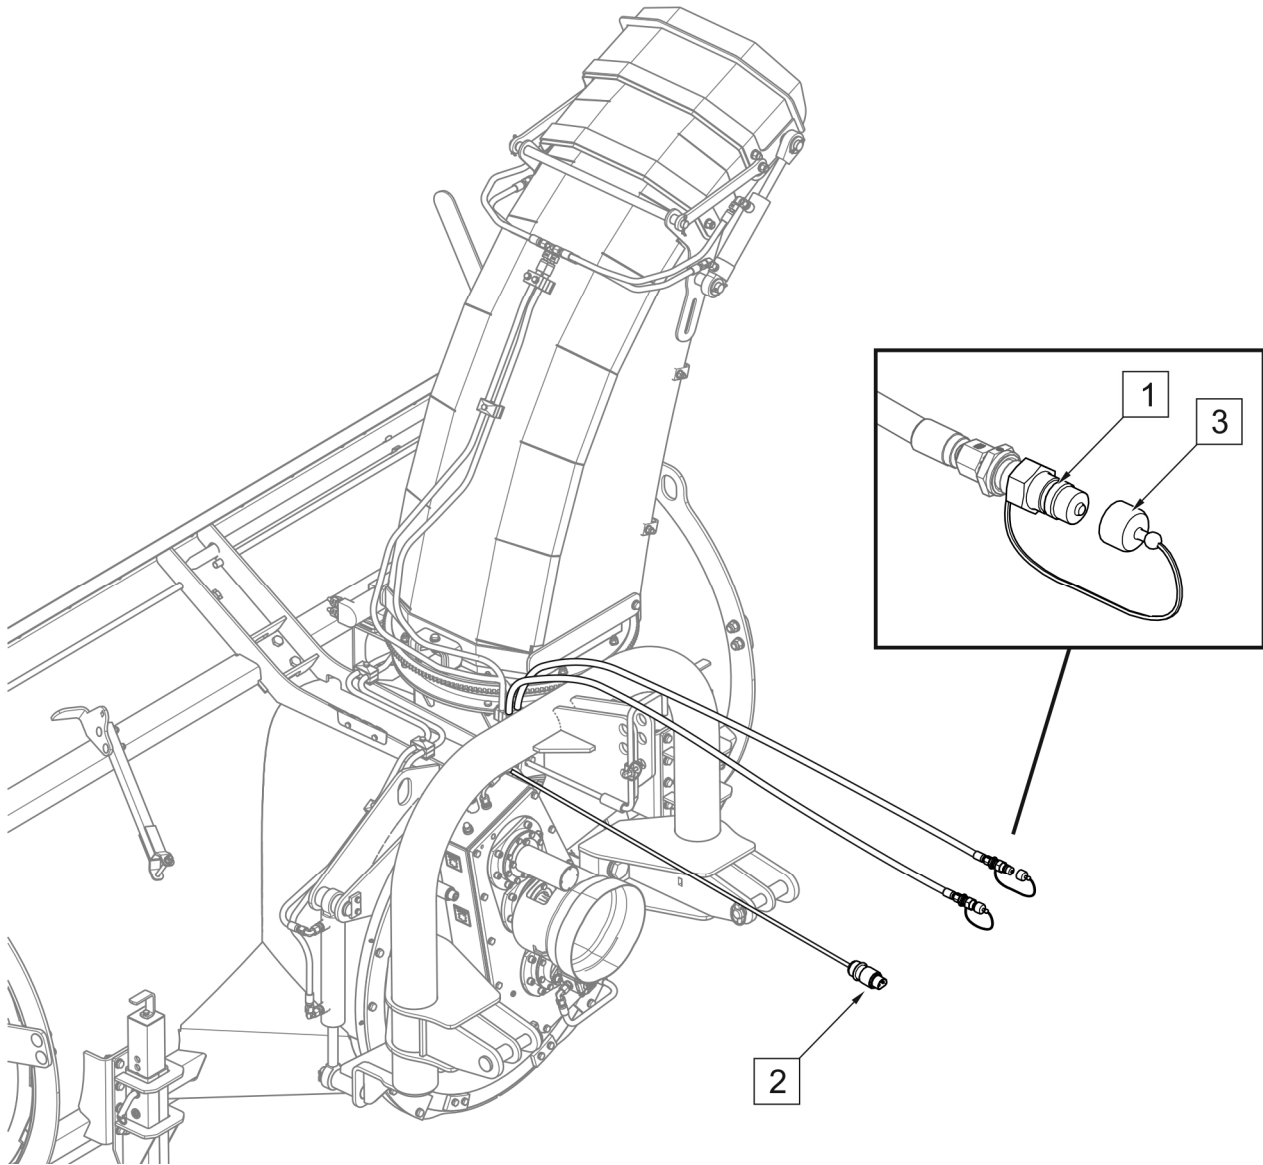
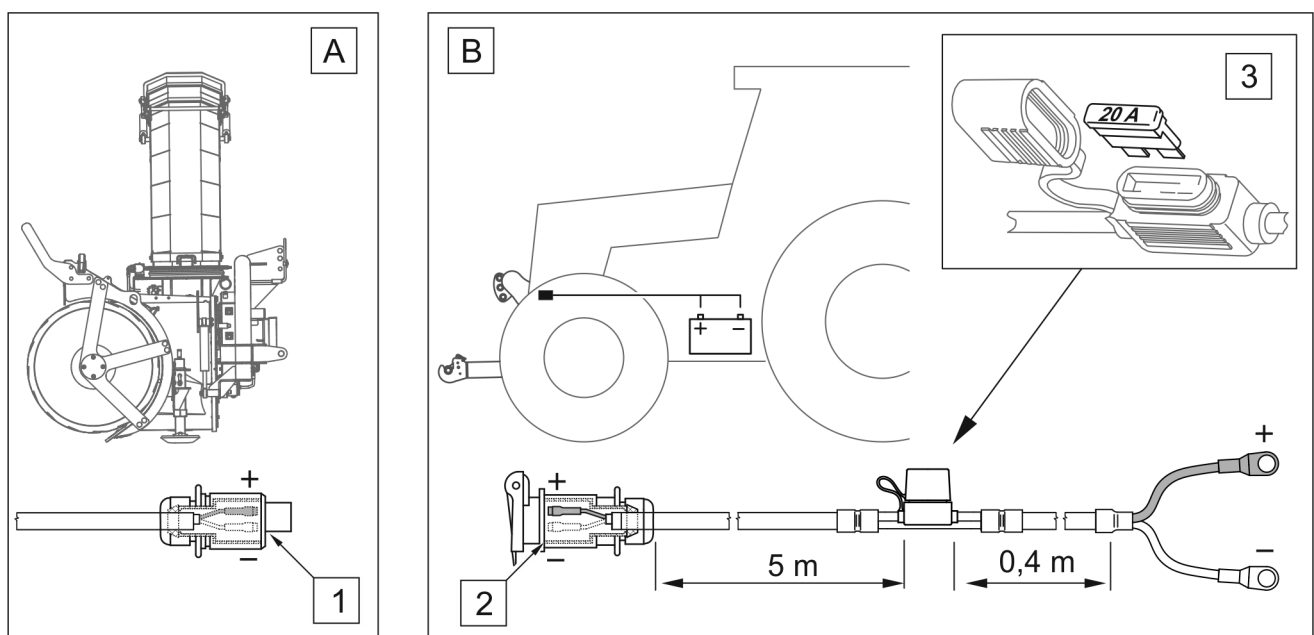

FIGURE 4.3 Connecting hydraulic system and electrical system (machine mounted on the carrying vehicle's front three point linkage)
FIGURE 4.4 Installing the power lead for the electrical system (machine mounted on the front three point linkage)
Hydraulic quick couplers (1) should be connected to the sockets of one section of the carrying vehicle's external hydraulic system (FIGURE 4.3). Connect the plug (2) to the 3-pole 12V DIN 9680 socket on the front of the carrying vehicle. If the carrying vehicle is not equipped with such a socket or is equipped with a different type of socket, install the socket according to the diagram (FIGURE 4.4).
The power lead (B) should be connected to the carrying vehicle's electrical system (FIGURE 4.4), and the socket (2) should be placed near the front three-point linkage. Power lead (B) has an UNIVAL 20 A fuse (3) on the supply lead „+”.